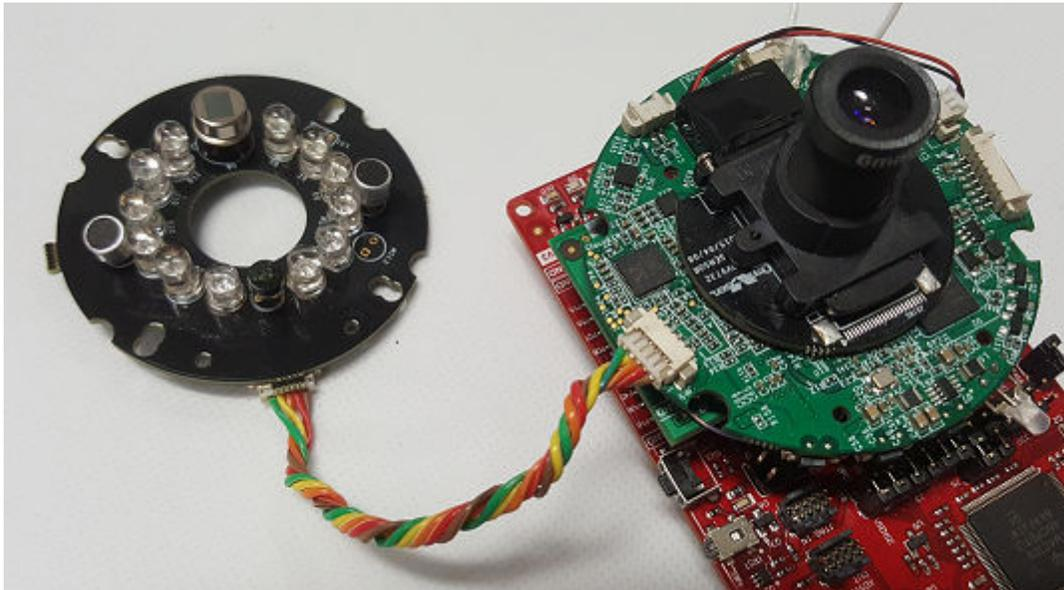

Figure 2-3. Cable Twist
- To reduce interference and get the best audio quality, twist the cable to the Omnivision reference board tightly, as shown in Figure 2-3.